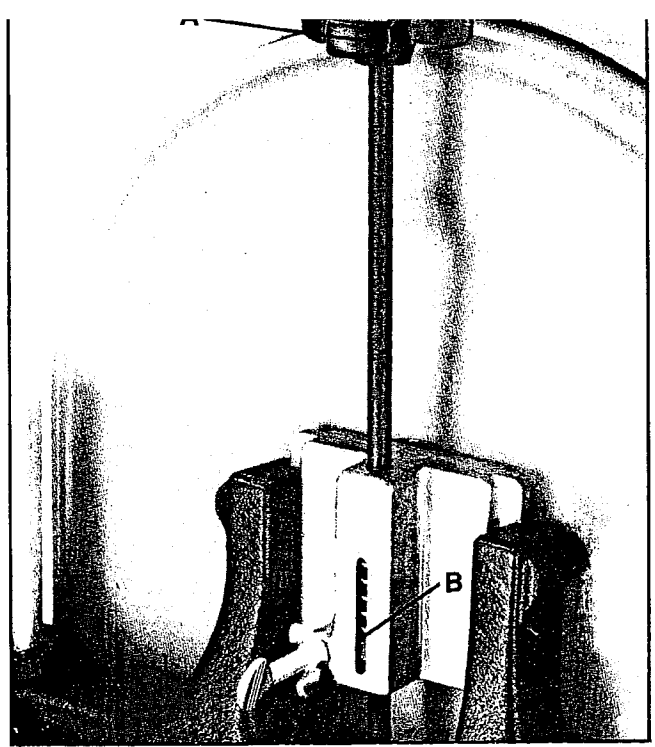

Fig. 23
On the back of the upper wheel slide bracket there is a series of graduations. These indicate the proper tension for various widths of blades. With the blade on the wheels, turn the knob (A) Fig. 23, to raise or lower the wheel, until the red fiber washer (B) is in line with the proper graduation for the size of blade being used.